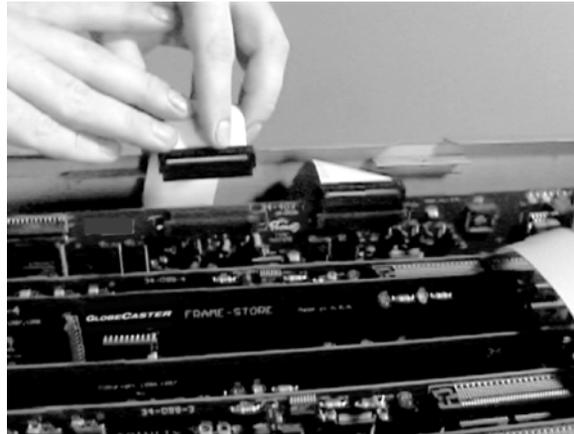

Figure 4.20: Connecting the Cables to J4 and J5 on the Time Machine Card
4. Locate the **J5** connector on the Time Machine Card and connect the cable we marked **J5** to it (Figure 4.20). This connector has a keyed slot.
5. Locate the **J4** connector on the Time Machine Card and connect the cable we marked **J4** to it (Figure 4.20). This connector has a keyed slot.